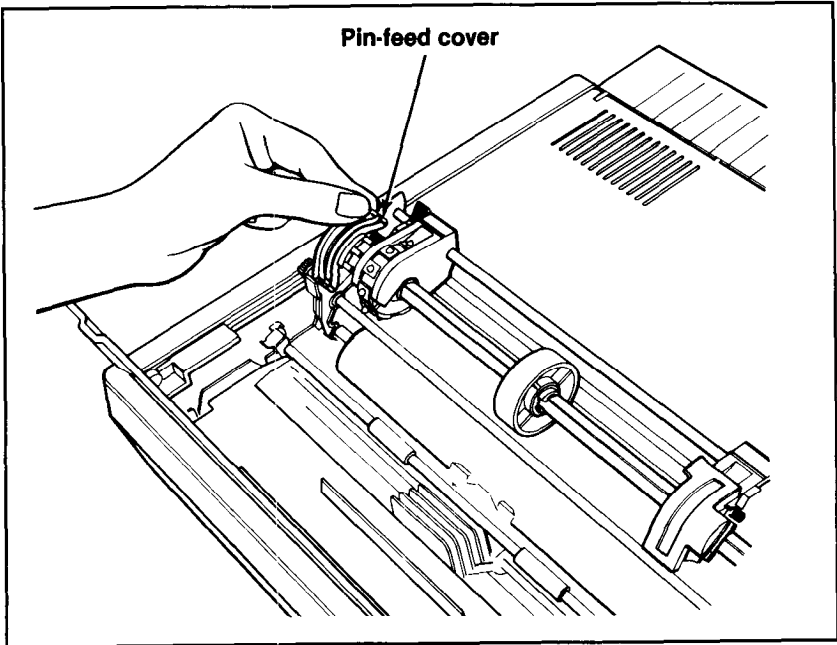

Figure 3-6. Opening the pin-feed covers
5. Open the pin-feed covers as shown in Figure 3-6.